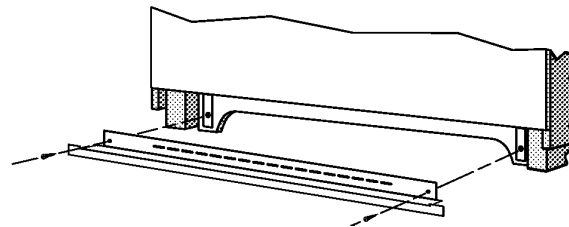

FIGURE 1
- Open oven door to the “Full Open” position (see Figure 1).
- Rotate hinge locking lever UP to the locked position to secure the oven door to the unit (see Figure 1).
**NOTE: Make sure that hinge locking lever is rotated fully UP to the locked position as shown (see Figure 1) before closing oven door.**
If hinge locking lever will not rotate fully UP to the locked position as shown (see Figure 1) then the hinge arm is not properly seated on the receiver. Rotate the hinge locking lever DOWN to the unlocked position (see Figure 2) and remove oven door as outlined in the Oven Door Removal procedure. Then replace the oven door as outlined in the Oven Door Replacement procedure, making sure that the hinge arm slots are fully seated on the horizontal pins in the hinge receiver.
- Once the hinge locking lever is rotated fully UP to the locked position (see Figure 1) close the oven door.
5. See figure 1 for lower trim installation.